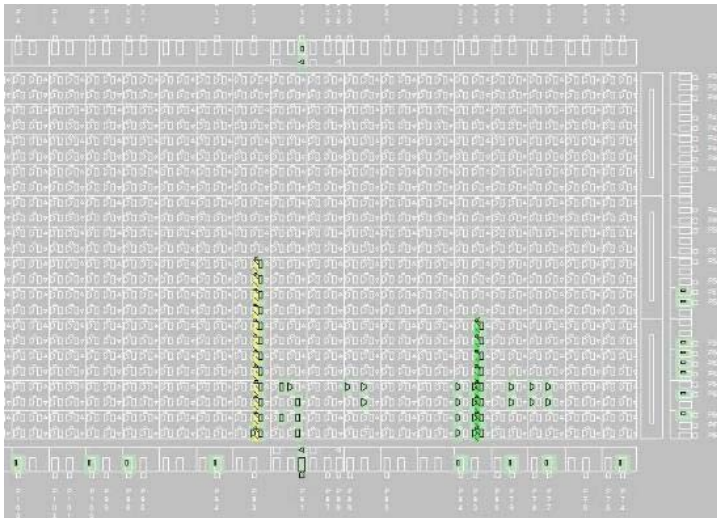

Figure 24. Floorplanner view
1. Opening Floorplanner; Highlight top\_accumulator.vhd in Sources in Project window. Expand Implement Design task on the Processes for Current Source window. Expand Place & Route under Implement Design task and double click on View/Edit Placed Design (Floorplanner). You will get a window similar to figure 24. This is a graphical representation of how the project was developed onto the chip. What you are looking at is an overhead view of the device. The outer ring is the input and output blocks (IOBs). Just as with CPLDs, this is how the device communicates with the outside world. All of the inner boxes are configurable logic blocks (CLBs). This is where all the data processing actually occurs.